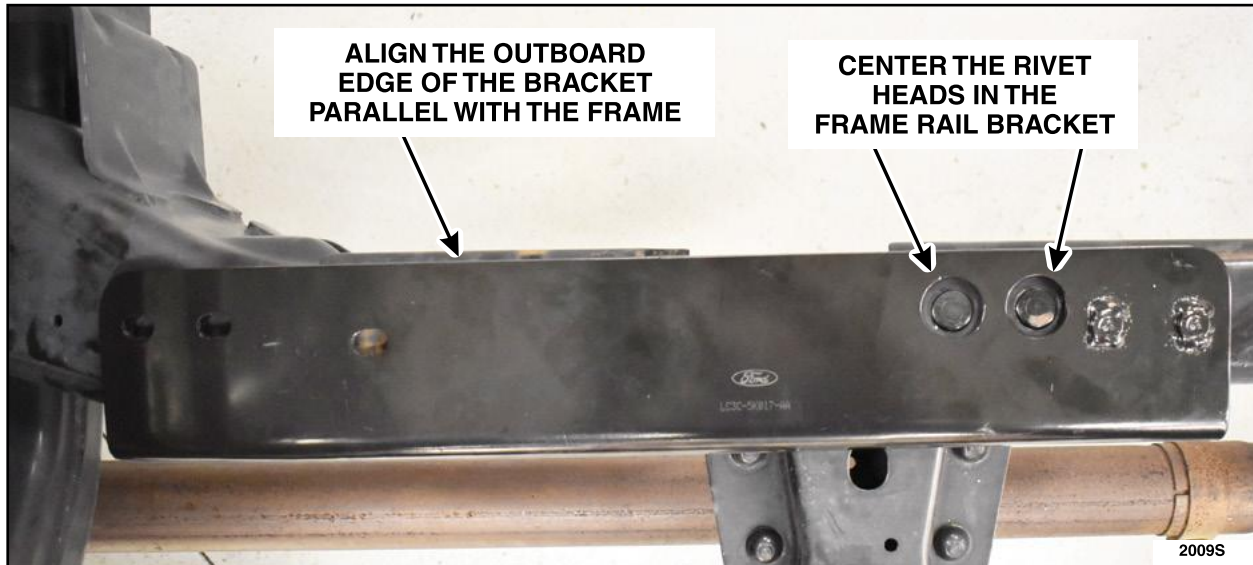

FIGURE 11
- a. Centering the two (2) rivet heads in the bracket rivet holes. See Figure 11.
- b. Ensuring that the outboard edge of the bracket is flush with the frame. See Figure 11.